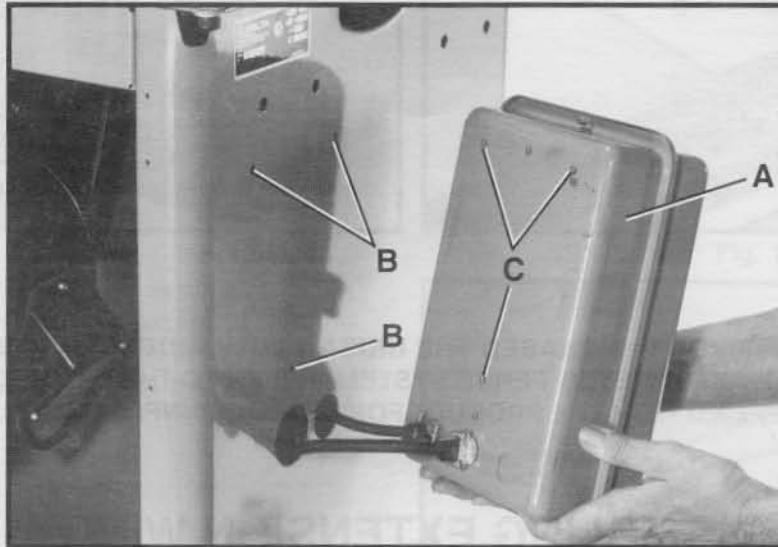

Fig. 7
If you purchased the machine with magnetic push button electrical controls, the saw is shipped with the starter box completely wired to the switch and motor. However, the starter box must be mounted to the saw cabinet. To assemble the starter box (A) Fig. 7, to the saw cabinet, proceed as follows:
1. From the inside rear of the saw cabinet, insert three 1/4-20 x 1/2" hex head screws with flat washers and lockwashers into the holes (B) Fig. 7, in the cabinet.
2. Line up the three tapped holes (C) Fig. 7, in the starter box with the screws and secure the starter box (A), to the saw cabinet.